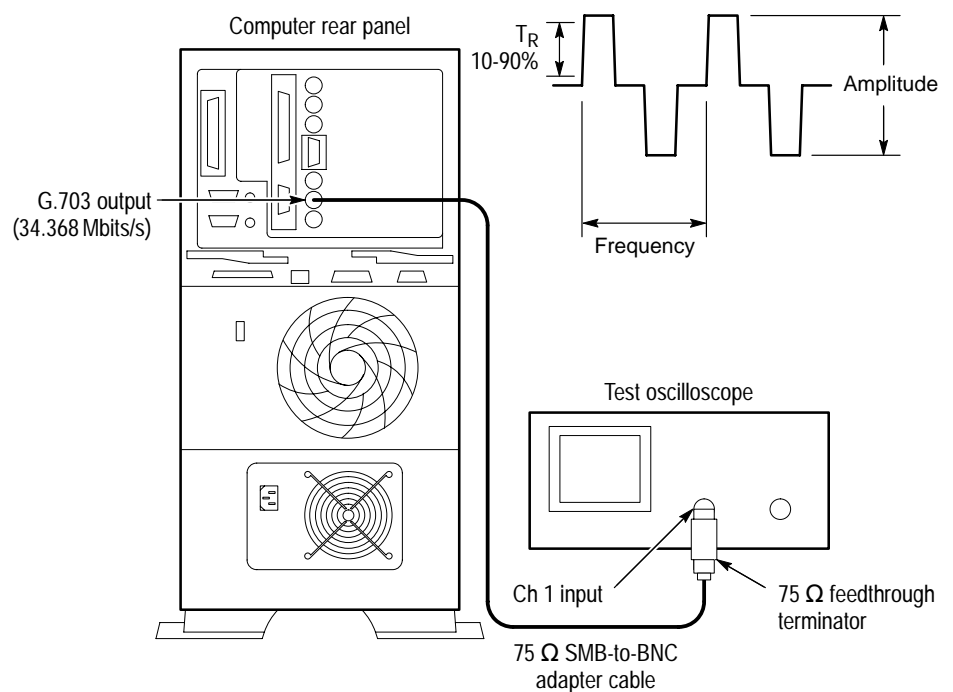

Figure 11: Setup for measuring the G.703 34.368 Mbit/s output
7. Verify a waveform frequency of approximately 4.224 MHz, an amplitude of approximately 5 volts, and a rise time of approximately 4 ns. See Figure 11 for the location of the measurement points in the waveform.
8. Move the output cable to the G.703 34.368 M output as shown in Figure 11.
11. Verify a waveform frequency of approximately 17.2 MHz, a peak-to-peak amplitude of approximately 2.3 volts, and a rise time of approximately 4 ns. See Figure 11.